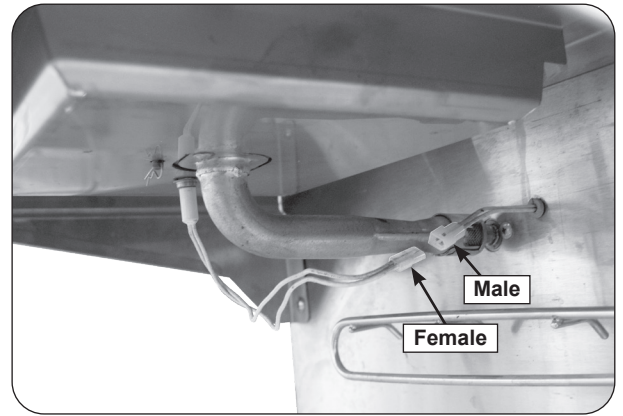

Fig. 27-1 Igniter wire connection
4. Connect the female connector on the end of the hot surface igniter wire to the male connector coming from inside the grill. See Fig. 27-1.